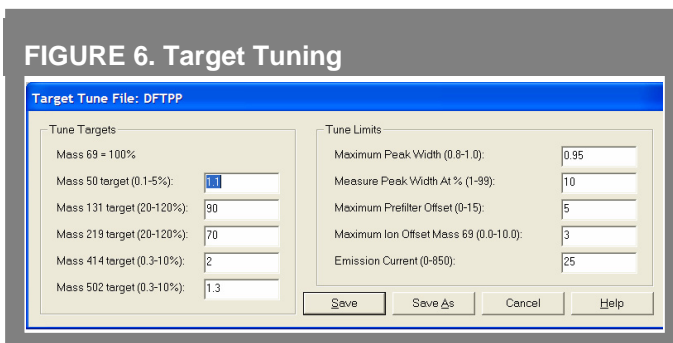

FIGURE 6. Target Tuning
The Target Tune file tunes the mass spectrometer to meet DFTPP tuning criteria. If you fail any of the ions listed in Table 1, refer to the **Action Items** and re-inject DFTPP until it passes. Usually only one or two ions will fail the criteria. Change one parameter at a time in the Target Tune File (refer to Figure 6) and re-inject until it passes.
1. If 51 m/z (listed in Table 1) is too low, raise the default value by 0.2 (see Figure 6.) If it is too high, lower it by 0.2.